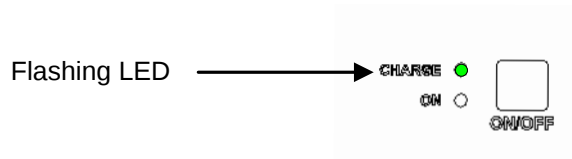

Figure 2-3. Charging Indicator
4. Verify the Power Indicator on the AC adapter is illuminated (Figure 2-3)